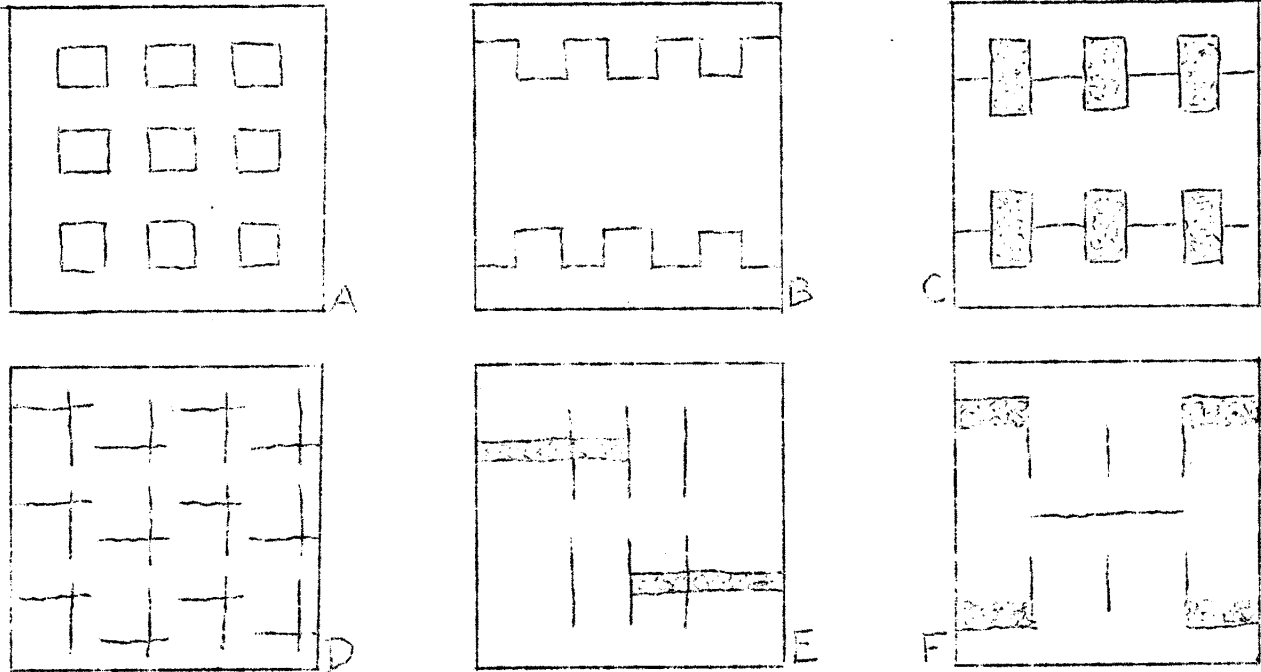

Fig.4.
On a four frame loom, all we can get are two blocks in weft (one being the opposite of the other, and one block in warp. Let us see what we can do in these circumstances. Fig.4 gives a few ideas. Some are conservative, and some are "modern".
On fig.5 we have a draft for fig.4 a, b, and c; in fig.6 - a draft for the pattern on Fig.4 d. Fig.7 shows a draft for pattern 4.e, and fig.8 - for pattern 4.f.
- Variation 7. - treading 6,4,6,5 (not used in any of the patterns on fig.4) gives vertical lines with short floats of 3.
Fig.4 a has been woven in the following way: Variation 1 to make plain ground in the border, then one repeat of Var.6, then Var.2 to square, then one repeat of Var.6, and again from the beginning.
Fig.4 b: Var.1 - one repeat of Var.6 - Var.2 to square - one repeat of Var.4 - Var.1 to fill the center of the woven piece - one repeat of Var.4 - Var.2 to square - one repeat of Var.6 - Var.1.
Fig.4 c: Var.1 - one repeat of Var.6 with the same colour as in warp - Var.6 with a different colour to square - one repeat of Var.4 with the same colour as in warp - Var.6 with the second colour to square - one repeat of Var.6 with the first colour.
Fig.4 d (draft on fig.6): Var.1 - Var.2 - one repeat of Var.4 - Var.2 - Var.6 (one repeat) - Var.2 - and start all over again.
Fig.4 e (draft on fig.7): Var.1 - Var.2 - one repeat of Var.4 with first colour - several repeats of 4 with second colour - one repeat of Var.4 with the first colour - Var.2 - Var.1 - Var.2 - one repeat of Var.6 with first colour - several repeats of Var.6 with second colour - one repeat of Var.6 with first colour - Var.2 - Var.1.
Fig.4 f (draft on fig.8): Var.1 - one repeat of Var.4 with first colour - Var.3 with second colour - Var.2 - Var.1 - one repeat of Var.6 - Var.1 - Var.2 - Var.3 with second colour - one repeat of Var.4 with first colour - Var.1.